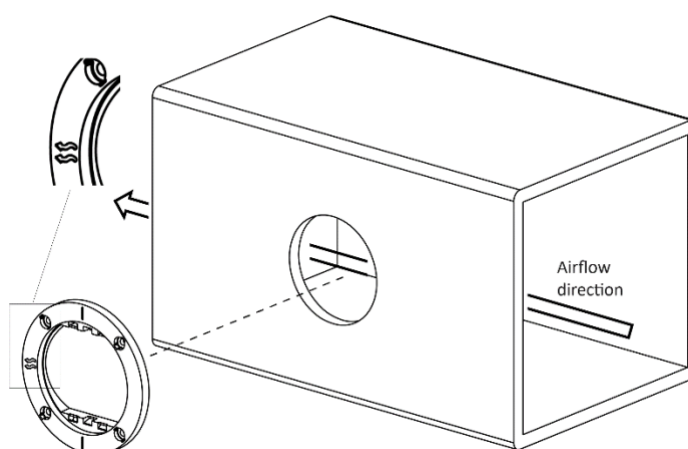

Figure 2: Align the wave arrows on the mounting ring with the airflow direction in the ducting.
- d. Align the wave arrows on the mounting ring with the ducting airflow direction (Figure 2).